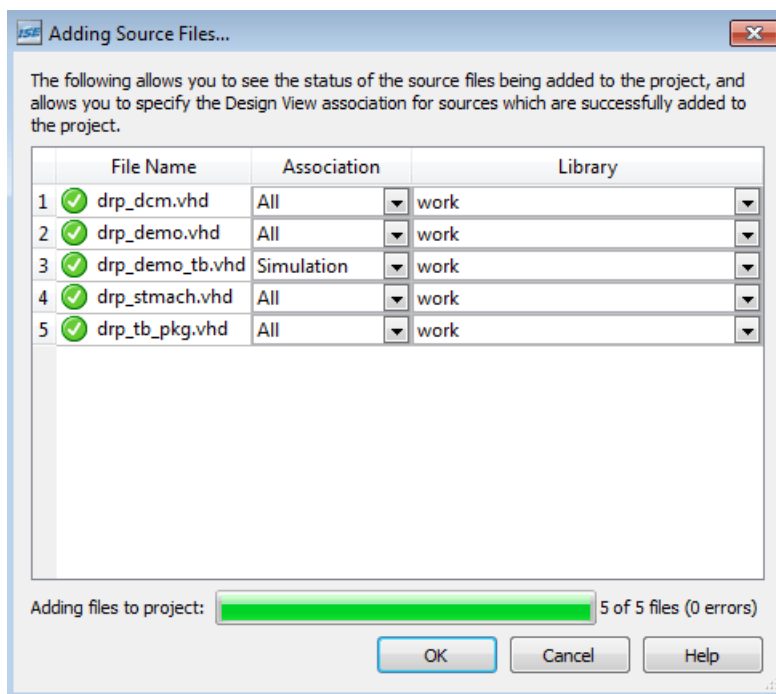

Figure 2-5: Status of Source Files and Associations
2. In the next window, make sure that the association and libraries have been properly specified for the tutorial sources. Compare your settings with those in Figure 2-5.